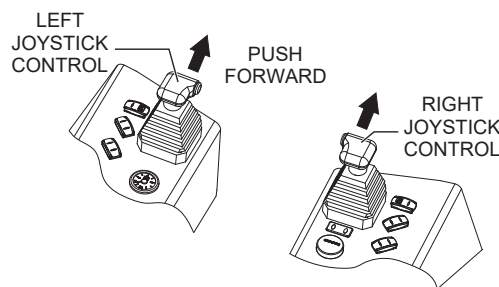

Figure 28. Joystick Control Forward Direction
2. Push both the left and right joysticks forward (Figure 28).